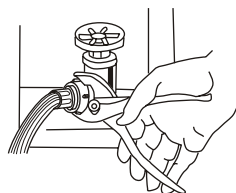
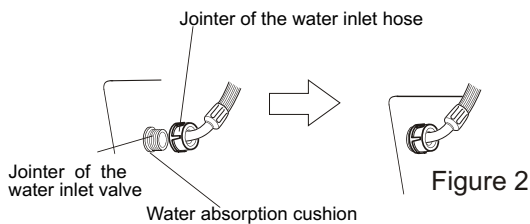

Figure 1
Figure 2
- 2、Take off the drain hose frame. Put down the drain hose. Take off the drain hose rack. As indicated in Figure 1, Pull the drain hose into the cabinet from the left side of the bottom (as figure 2).
1. Attach the water inlet hoses to the water faucet. Using pliers, tighten the coupling. (As figure 1)
(As figure 2)